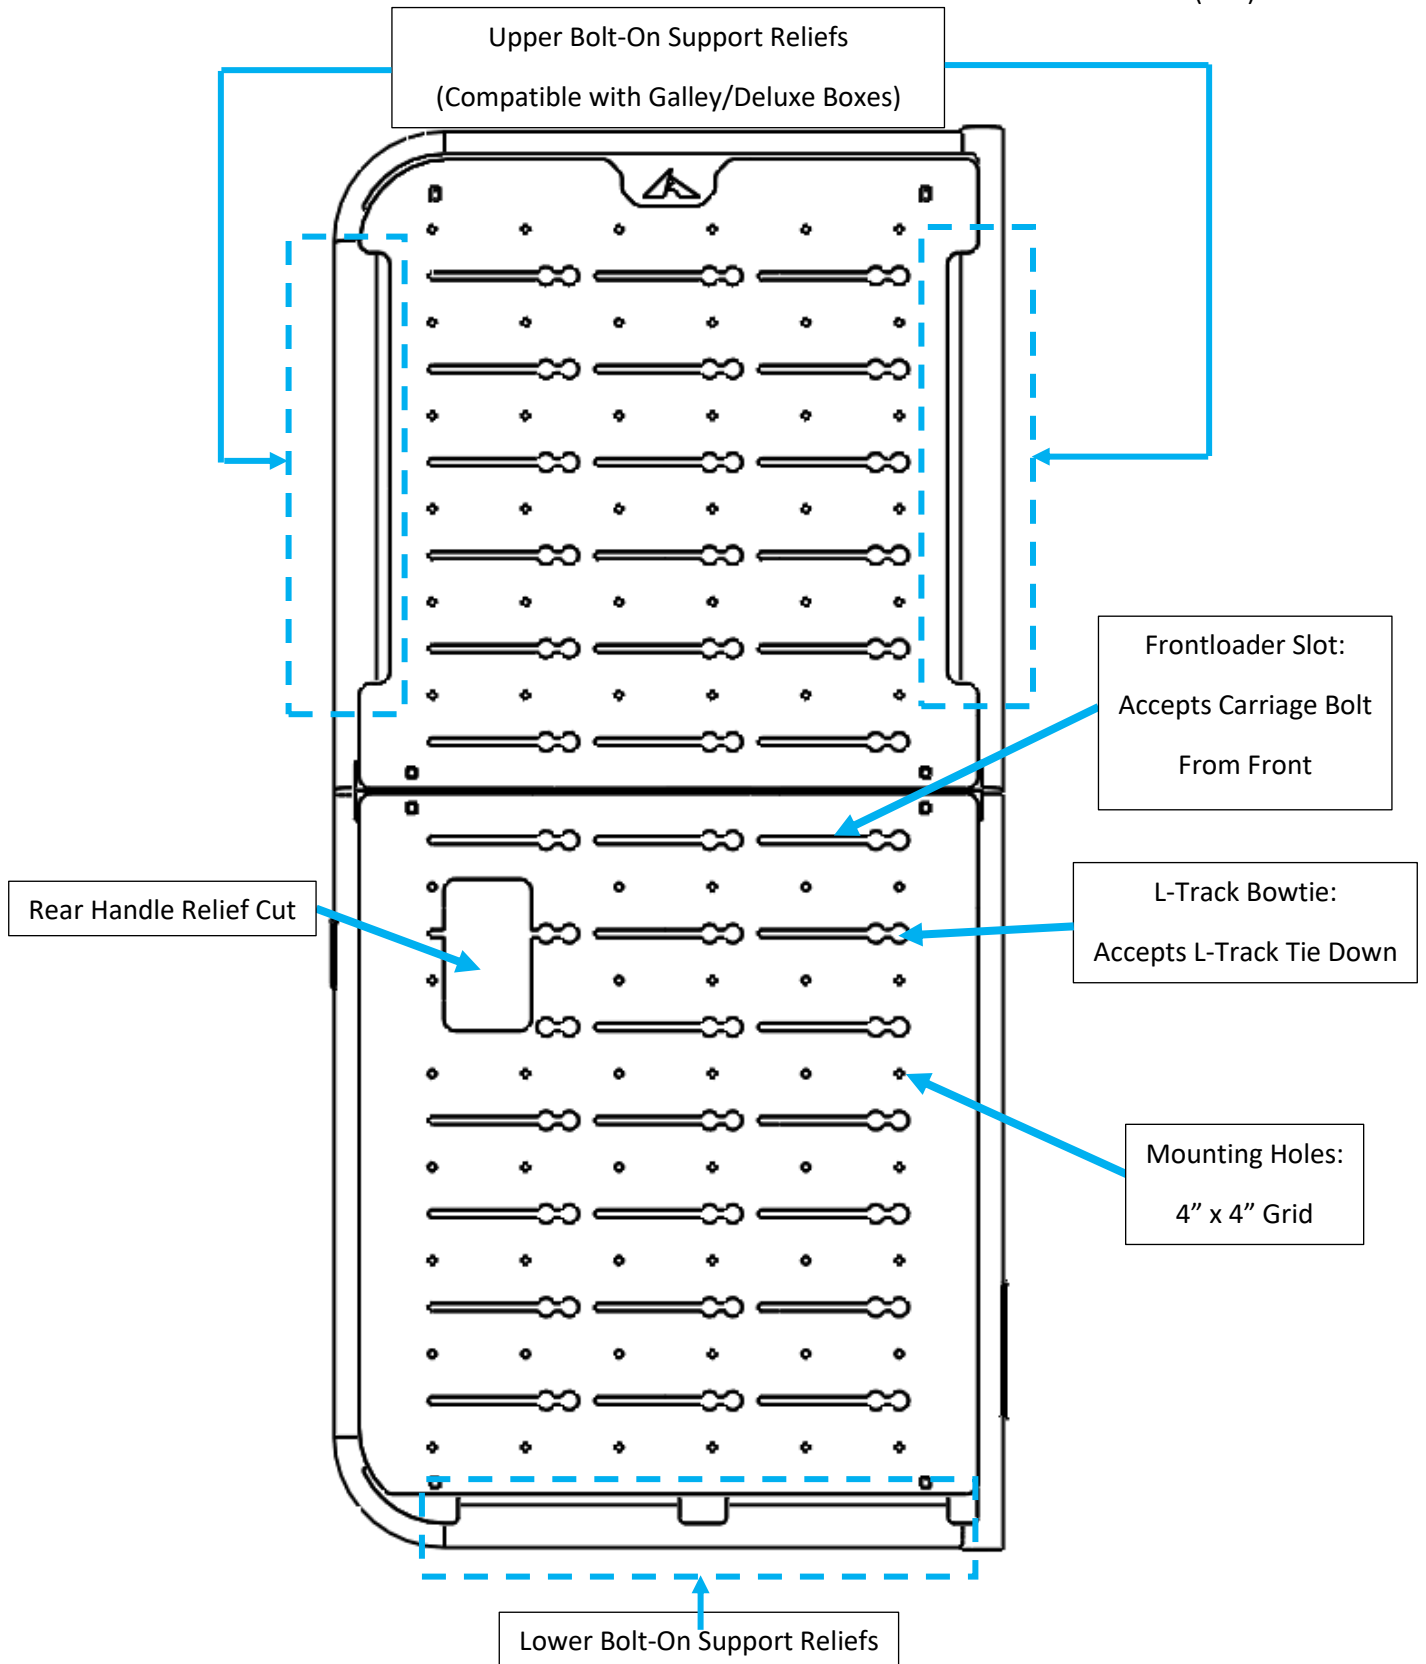

Figure 2: Features of BackPACK
4. Install desired accessories onto BackPACK paying special attention to weight capacity. See Figure 2 for reference.